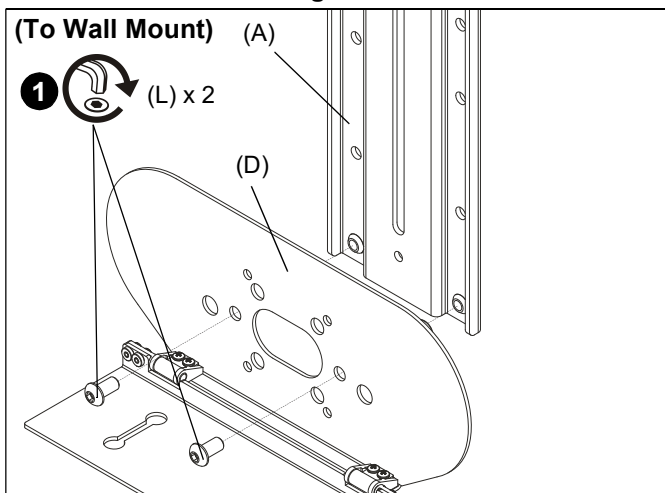

Figure 2
1. Attach shelf (D) to upright bracket (A) using two 1/4-20 x 1/2" button head machine screws (L). (See Figure ) or (See Figure 2)